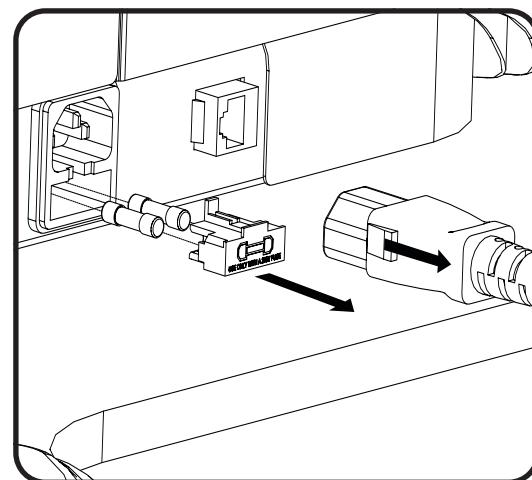

Figure 3
1. See Figure 3. Pull back on the red tabs of the power cord at the base of the stretcher bed to remove the power cord.
4. Insert new fuse(s) into the fuse drawer with same size fuse (5mm x 20mm 4 Amp 250V Time-Delay Glass tube type) removed in step 3 (See Figure 3).